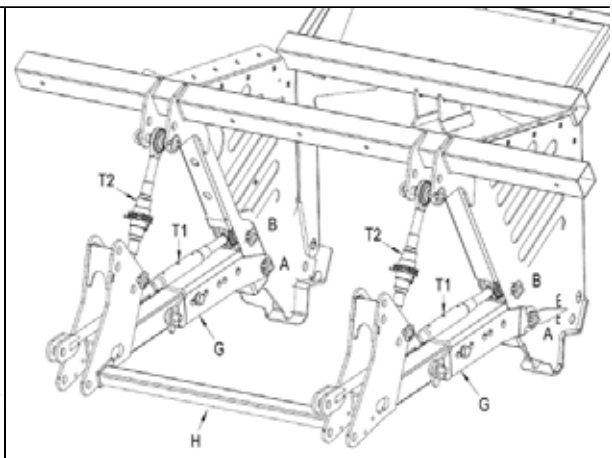

Fig. 10 Installation of “fast” configuration
2. Assemble the arms G just assembled in the holes A of the seed-drill (figure 10)
3. Fix the tie rods T1 in the holes B of the seed-drill, paying attention to position C (figure 10 and 11) of the upper hole according to the machine configuration
5. Combine the two telescopic arms through the frame H (figure 10)